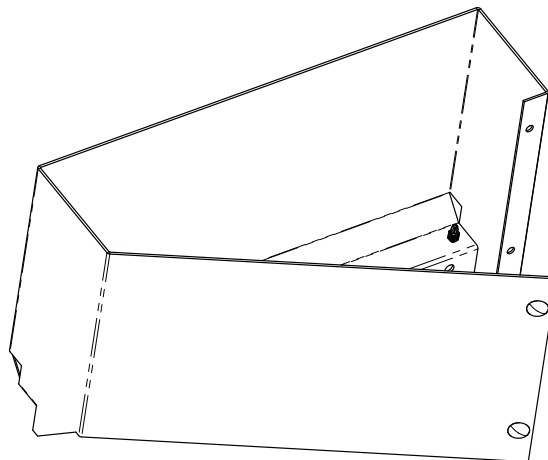
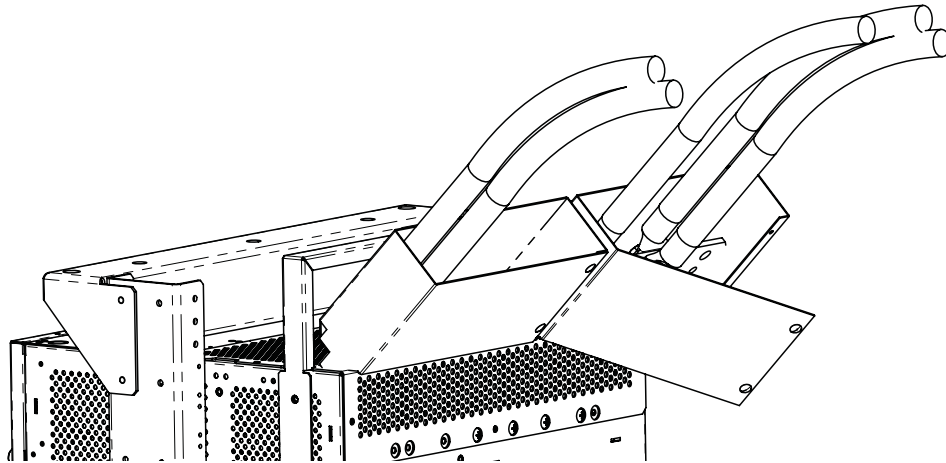

Figure 41 — Insulation cover (rear view)
Figure 42 — Insulation covers in place
Cut between the holes with side cutters to make a large enough entryway for the required cables. Figure 41 shows a small hole cut in the cover.
1. Start from the rear left and wrap an insulating cover around the cables and bus bar (Refer to Figure 41 and Figure 42).